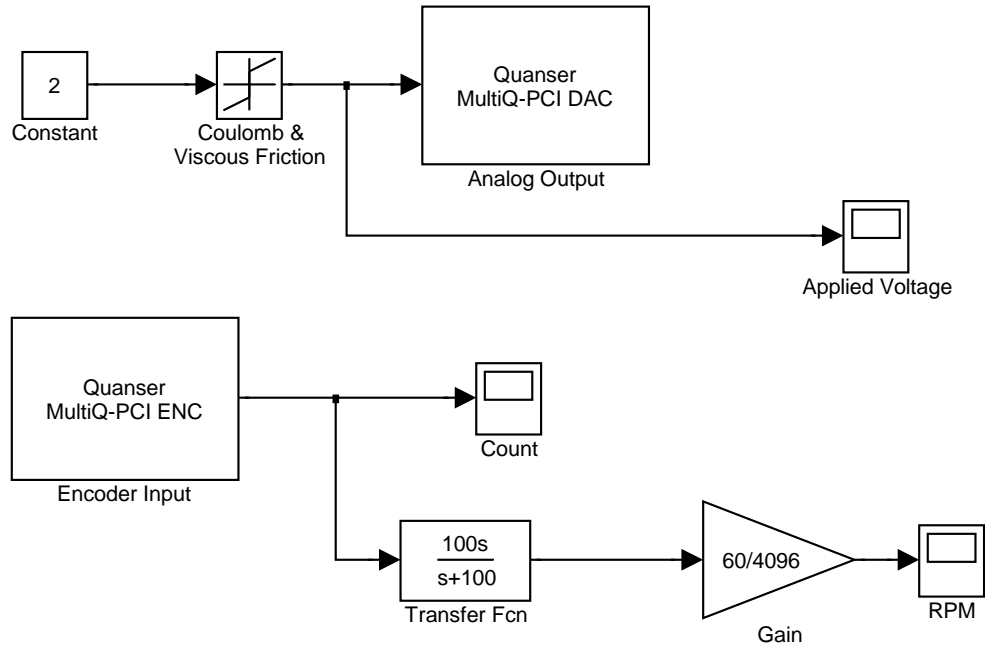

Figure 7: Model that accounts for stick-slip friction. Compare to Fig. 5.
4. Add a Coulomb & Viscous Friction block to your model, as shown in Fig. 7. Open the block and set the Coulomb friction value (Offset) to the dead-band voltage you determined above. *The Coulomb & Viscous Friction block can be found in the Discontinuities library. This block will account for the dead band so that small applied voltages will still move the motor. The block will initially contain a vector for the offset value. Simply delete this and enter your dead-band voltage as a scalar.*
- (b) Run the model from Fig. 7 for about 5 seconds.
You can simply add the necessary blocks to the model from Fig. 7.